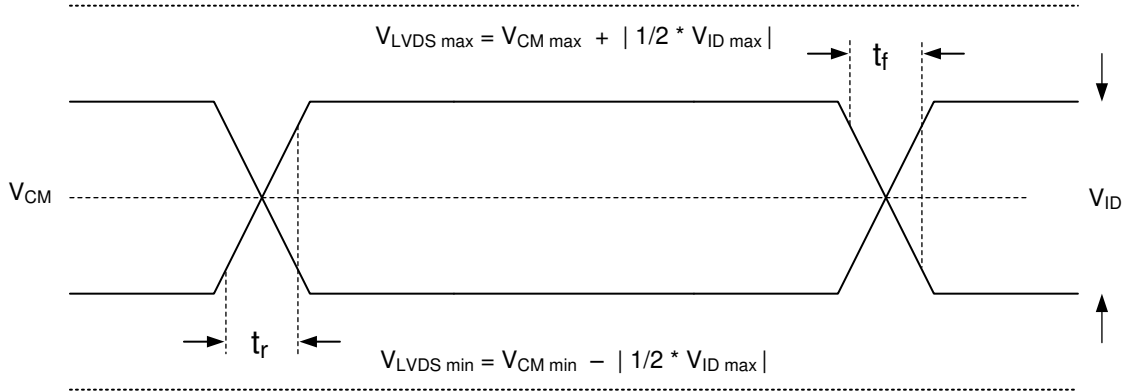

Figure 6-5. LVDS Waveform Requirements
- (10) See Figure 6-5 LVDS Waveform Requirements.
- (11) Simultaneous exposure of the DMD to the maximum Section 6.4 for temperature and UV illumination reduces device lifetime.
(2) See Figure 6-5 for timing requirements for LVDS.
(3) Channel C (Bus C) includes the following LVDS pairs: DCLK_CN and DCLK_CP, SCTRL_CN and SCTRL_CP, D_CN(15:0) and D_CP(15:0).
(4) Channel D (Bus D) includes the following LVDS pairs: DCLK_DN and DCLK_DP, SCTRL_DN and SCTRL_DP, D_DN(15:0) and D_DP(15:0).